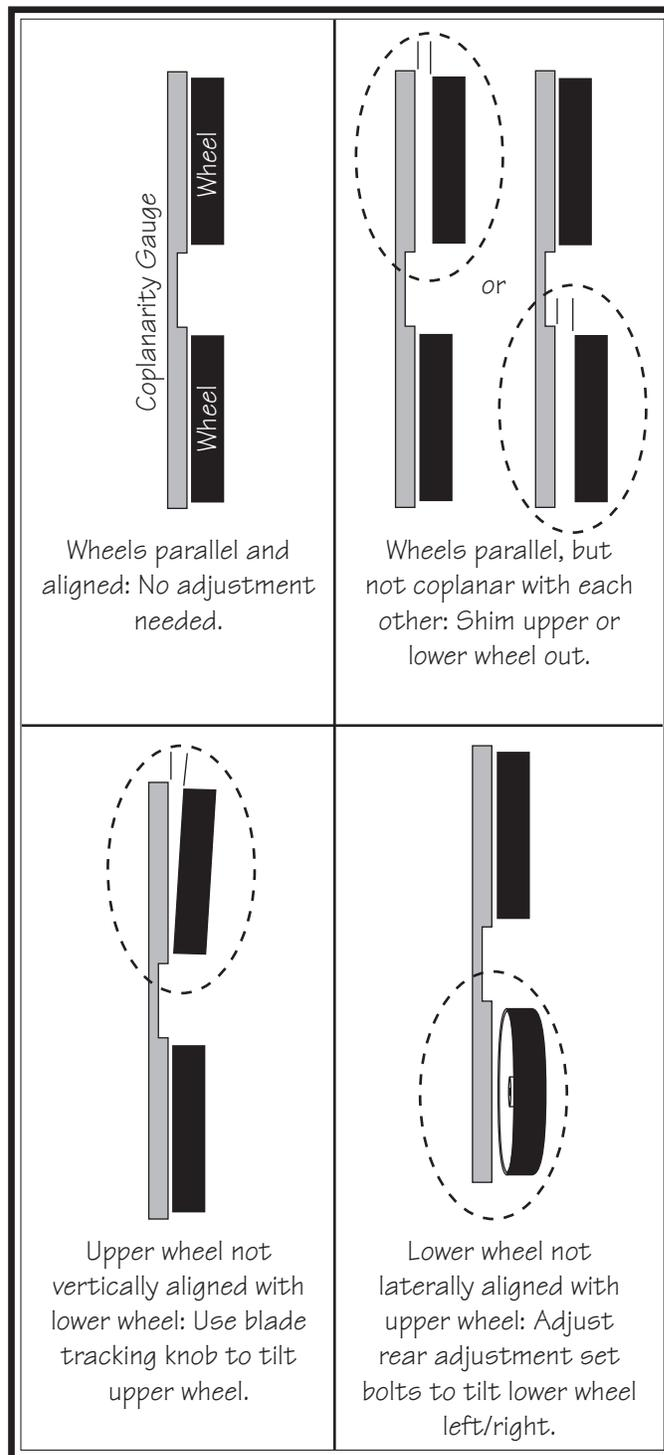

Figure 105. Wheel alignment illustration with solutions to misalignment problems.
5. Check wheel alignment and adjust tracking knob to bring both wheels into alignment as much as possible. If wheels cannot be adjusted coplanar, use **Figure 105** to determine how to proceed with alignment adjustments.